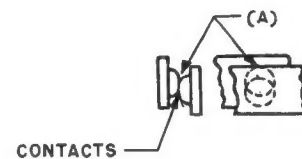

Fig. 2 - Maximum Permissible Contact Misalignment
2.03 Contact Alignment: Fig. 2(A) — Contacts shall not be out of alignment by more than two-fifths of their base diameter. Gauge by eye.